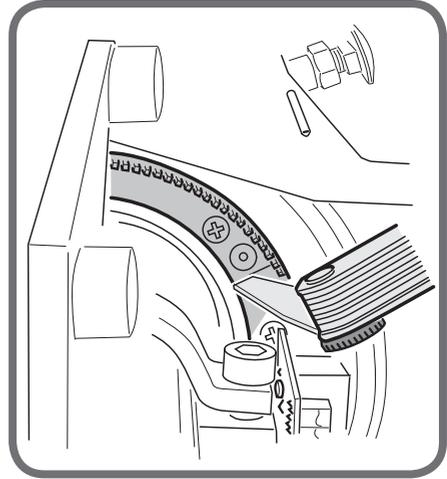

Fig. 4
- on the new disk, use nippers to cut the two junction teeth in line with the "0" notch. Insert the disk in the appropriate seat and tighten the 4 screws (previously loosened) but without blocking them. Adjust the disk so that the gap on the "0" notch is 0.9mm/1mm, as shown in figure 4. To check the width of the gap on the "0" notch you can use a normal feeler gauge;